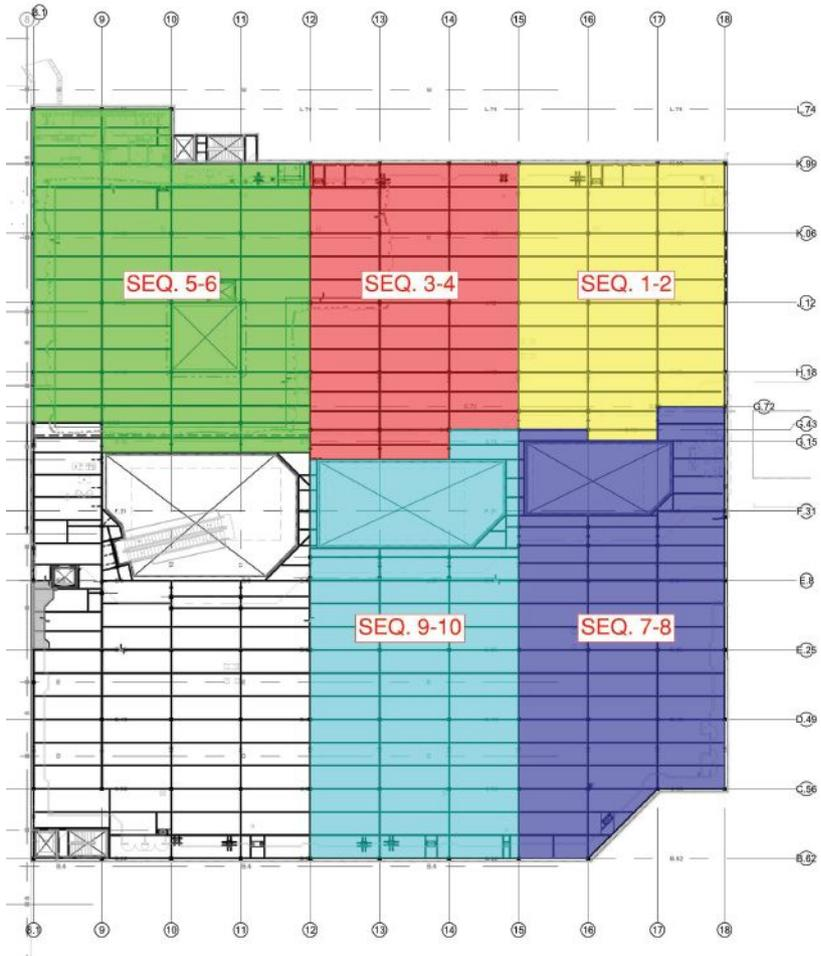

Fig. 1. A sample erection sequencing plan.
- What is the proposed erection sequence? (See Figure 1.)